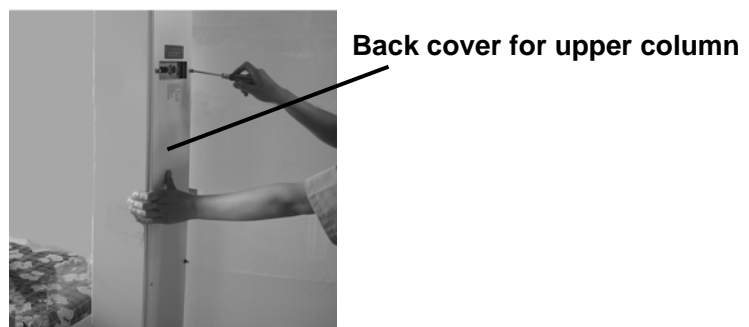

FIGURE 2.2
③ Install the back cover for upper column with upper column as the figure 2.2, and fix them with the pan head bolt M5X20, Spring washerΦ5, Flat washerΦ5 and external teeth serrated lock washers Φ5 on its original position.